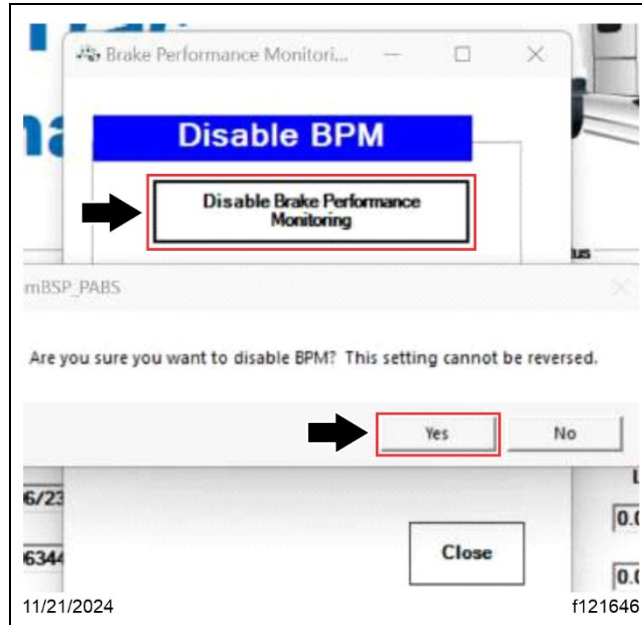

Fig. 66, Disabling the BPM
- 22.4. Select the 'Disable Brake Performance Monitoring' button. Be sure to reset the learned values before disabling. A pop-up appears asking to confirm disabling the BPM, select 'Yes.' See Fig. 66.